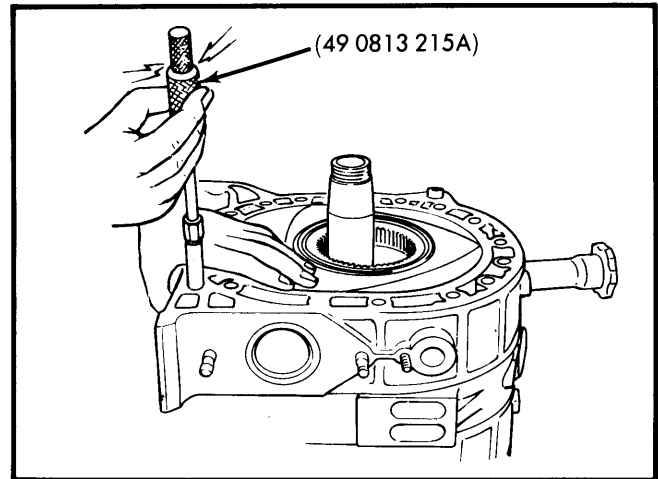

**Fig. 3 Loosening Sequence of Tension Bolts**
5) Remove tension bolts on rear housing in sequence shown in Fig. 3 by loosening in 2 or 3 steps. Lift rear housing off shaft and remove any seals stuck to rotor sliding surface, placing them back in original positions. Remove seals and "O" rings from rear side of rear rotor housing.